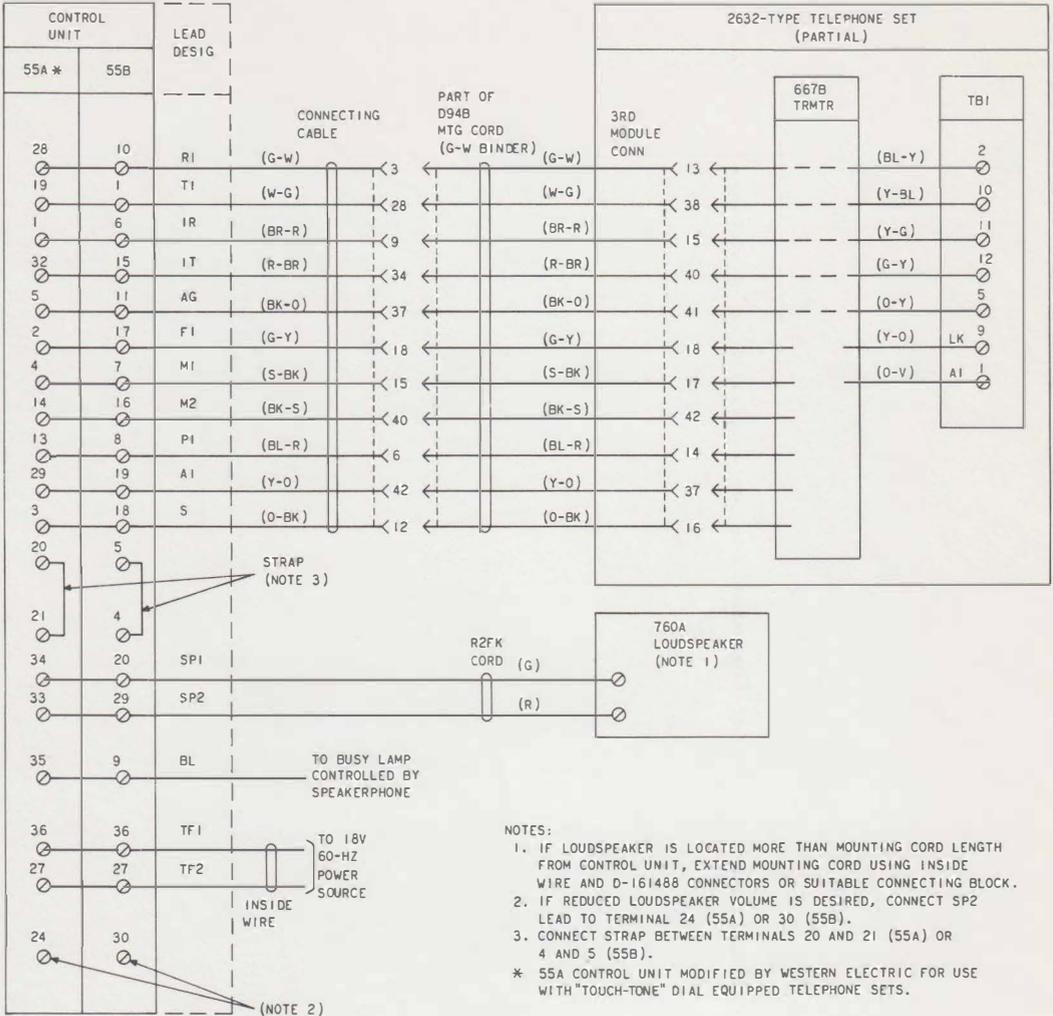

Fig. 1—2632-Type Telephone Set, Connection For 3-Type Speakerphone
- Remove Tables A and B; information is included in Fig. 1
- (c) Connect spade-tipped leads of transmitter as shown in Fig. 1.
Reference Tables A and B information is included in Fig. 1
(c) Connect speakerphone bank of transmitter as shown in Fig. 1.